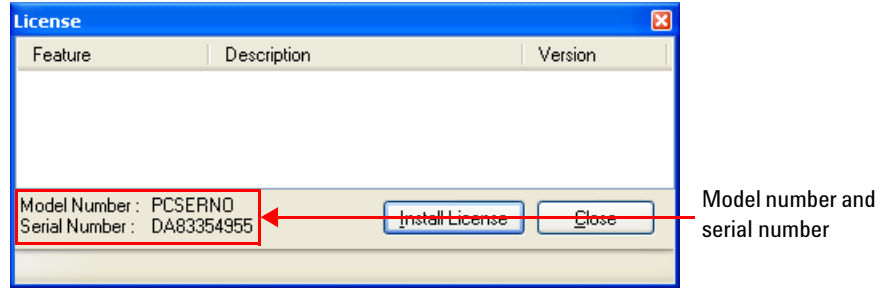

Figure 17 License dialog box without any license installed
- You are required to use the same model number and serial number specified in the License dialog box during the software installation. Refer to **Figure 17**.
- 5 Go to **Help > License**, and the License dialog box will appear as shown in **Figure 17**.